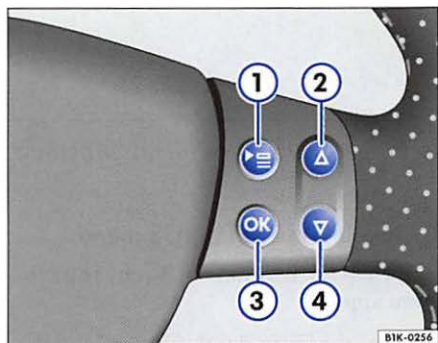

Fig. 10 Multifunction steering wheel: right side
- Press the button ⇒ fig. 10 ① on the multi-function steering wheel until the SETTINGS menu is displayed.
- Press the arrow keys ② or ④ to highlight the menu item **Winter tires**. The highlighted menu item is between the two horizontal lines. There is also a triangle on the right ◀.
- Press the button ③. The **Winter tires** menu opens.